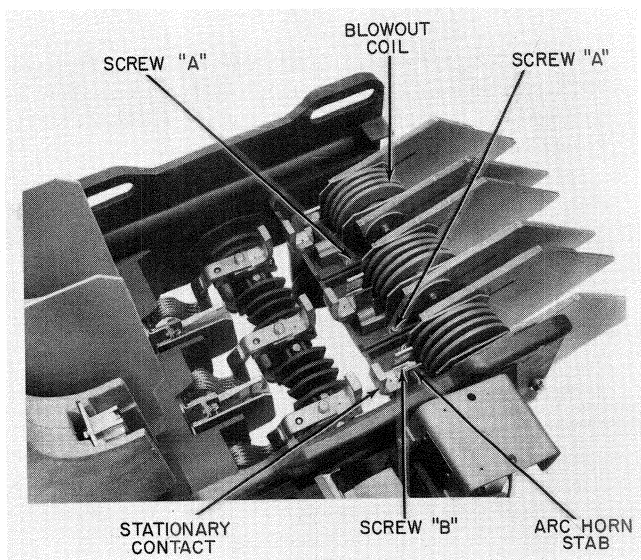

Fig. 36. Blowout base and main shaft assembly
3. Remove the blowout-coil assemblies, arc-horn stabs and stationary tips by removing screws "A" and "B" as shown in Fig. 36, and bolts located below the base, that secure the blowout-coil stab to the base. Care should be taken to observe how parts are assembled so that they can be reassembled properly on the new base.